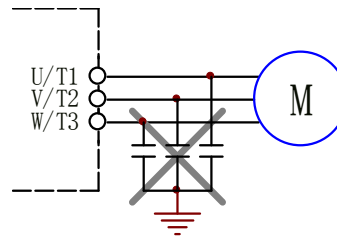

Fig. 4-16 Never connect capacitor at inverter output side
- Never connect capacitor at inverter output side, see Fig. 4-16.